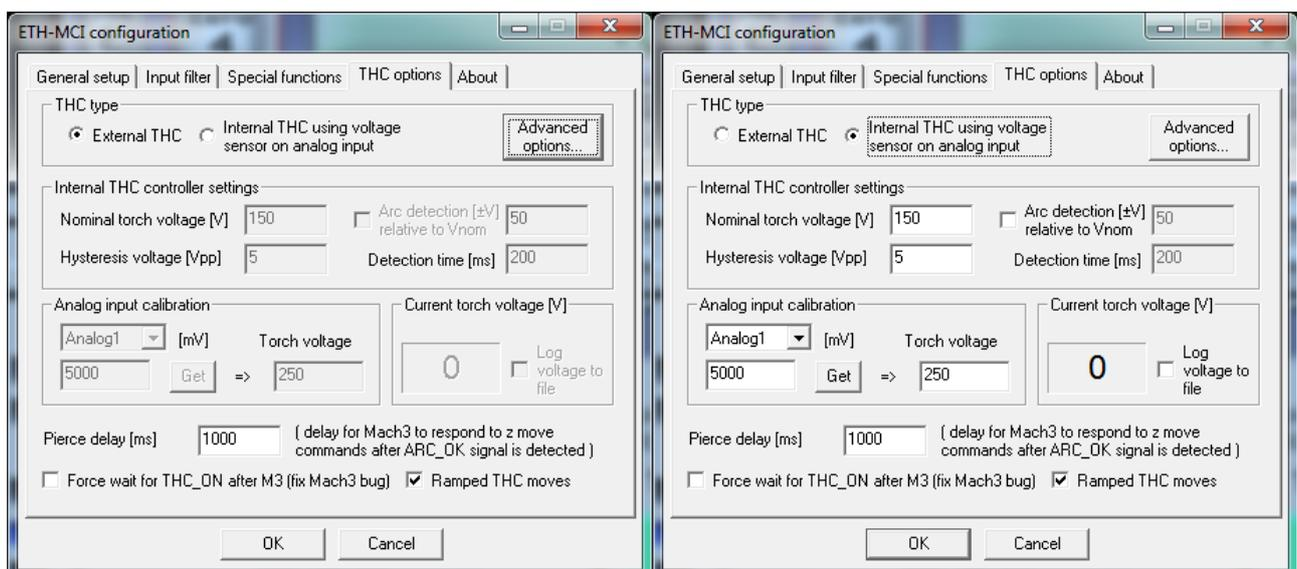

Figure 5.4 THC options
- External THC Up/Down control (Figure 5.4 left),
- Internal THC control (Figure 5.4 right).